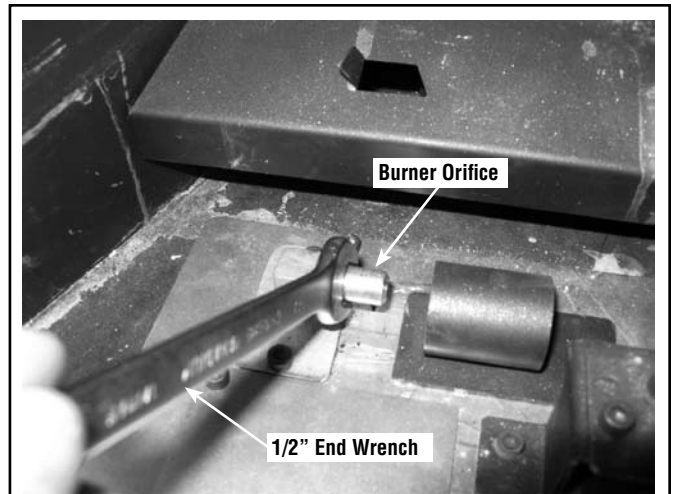

Figure 7 - Replace Burner Orifice
Step 9. Using a 1/2" open-end wrench, remove burner orifice. Replace the #53 LP orifice with the #41 NG orifice. Make sure to use pipe compound on the threads when installing the new orifice. See **Figure 7**.